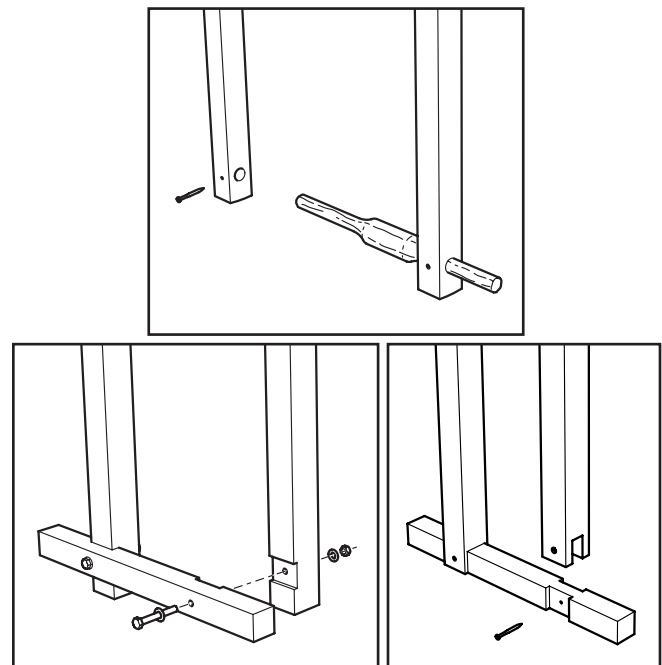

Figure 19: Foot pin alternatives.
- Foot Pin: This part could depart dramatically from the form shown and still work well. A few alternatives are shown in **Figure 19**.
- **Clamp Pin:** The clamp pin should be able to rotate but, as shown for the foot pin in **Figure 19**, it could be shaped by hand with a drawknife and spokeshave. You could start with a round piece (such as a sapling if you are making a rustic-style horse) or square. Some users prefer a square pin with a "V" groove cut into one or more of the clamping faces to help grip round workpieces.